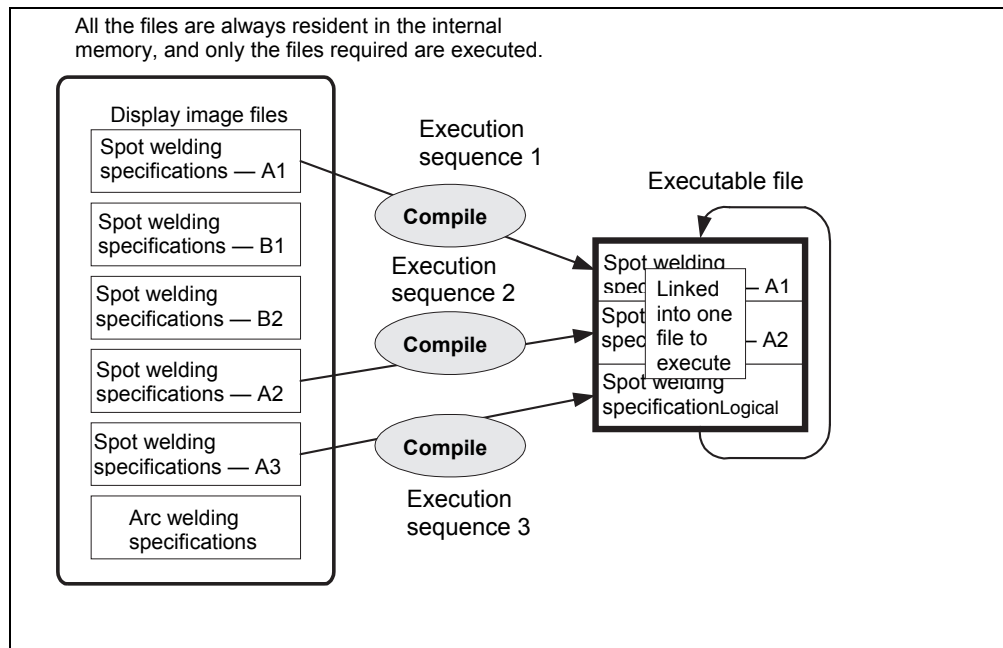

Fig. 1.1.5 Linking a multiple number of ladder programs
(1)	Select the required ladder program from among the ladder programs (display image files), and perform "Check." → Fig. 1.1.5 If a multiple number of ladder programs (display image files) are to be used, the sequence in which they are to be executed must be specified at this time.
(2)	The files are first checked for syntax errors and other errors by the compiler and then converted into TIC files (temporary executable image files). If errors are found, TIC files are not generated.
(3)	When all the ladder programs (display image files) are successfully compiled, the TIC files (temporary executable image files) are linked together to form a single executable file.